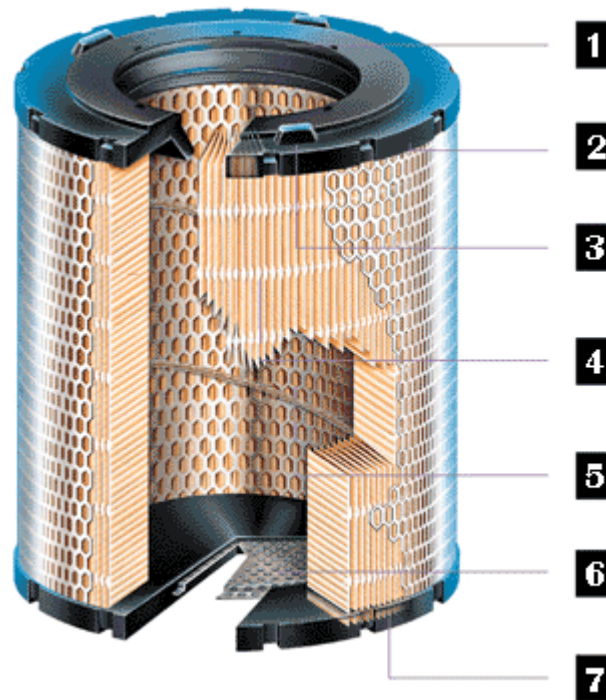

Fig.22
- It is pleated to give an increased filtering surface area as shown in Fig.22 on the next page